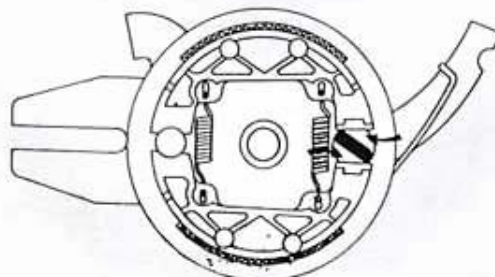

Fig. 3
- Coat the brake pivot cam with a light film of grease (fig. 3).